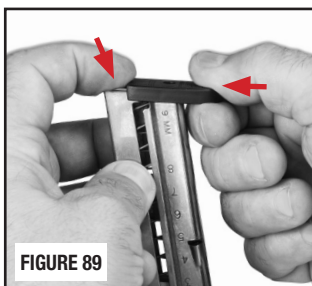

FIGURE 89
- While holding butt plate catch down in the tube, slide the butt plate onto the flanges of the magazine tube (FIGURE 89). The raised boss on the butt plate catch engages the hole in the butt plate. An audible “click” will generally indicate that the parts are locked in place.